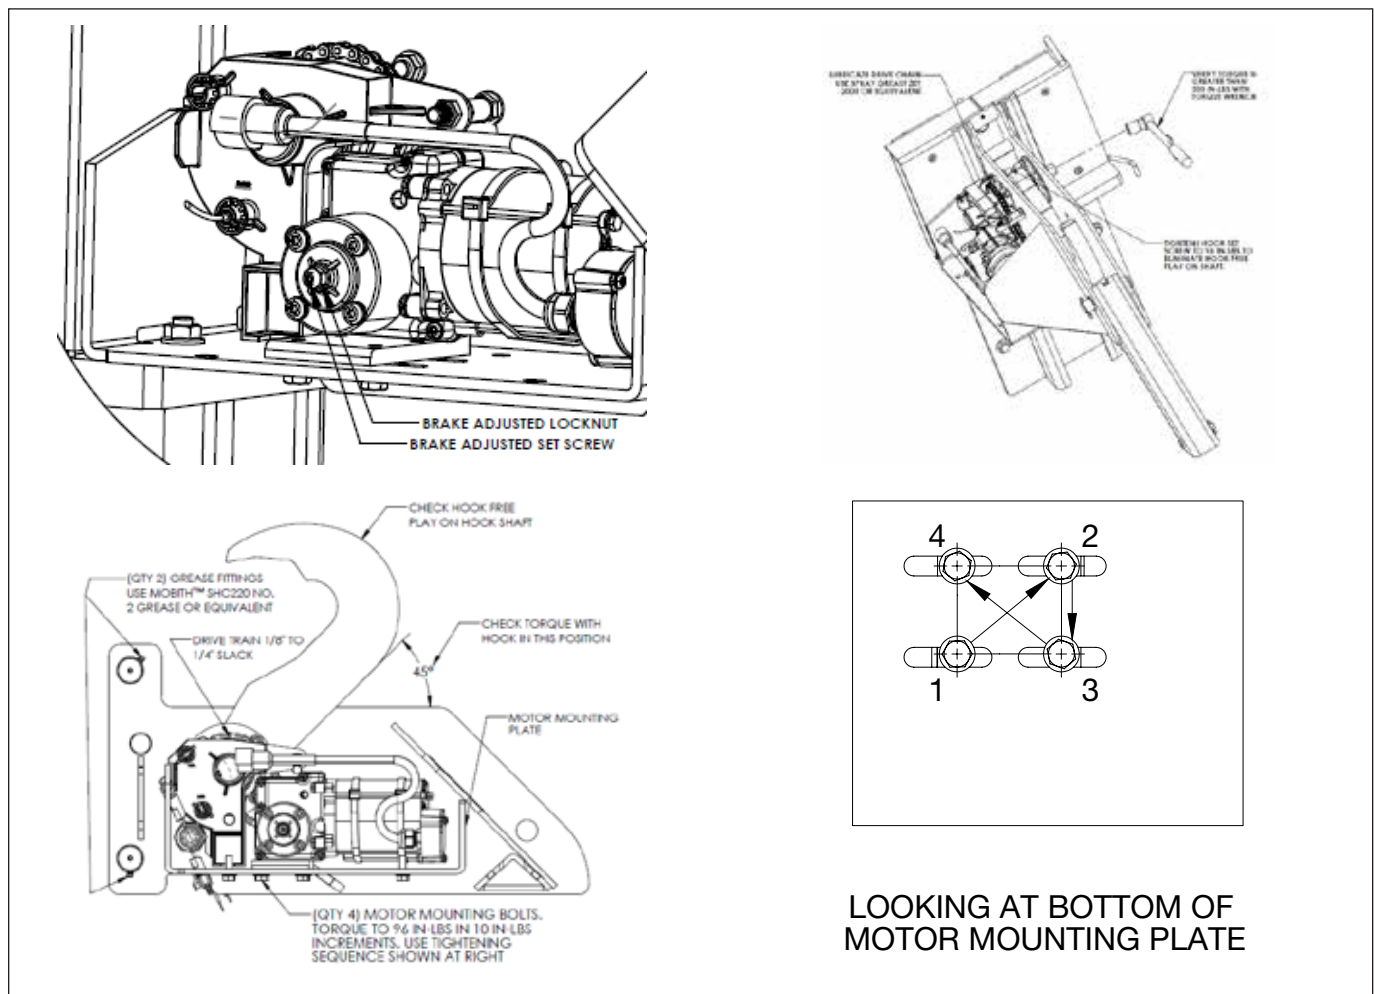

Figure 7-1-1 Maintenance and lubrication
- Check and tighten, if necessary, motor drive chain. To tighten see Figure 7-1-1, page 37.
The drive chain should not have more than 1/4" slack. Refer to Figure 7-1-1. To tighten chain:
7.2 Brake torque adjustment (Refer to Figure 7-1-1)